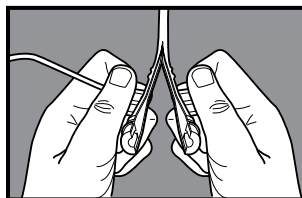

Figure 4
35. Sharply snap the tabs of the valve housing down in a plane perpendicular to the long axis of the sheath to split the valve housing. (see Figure 4)